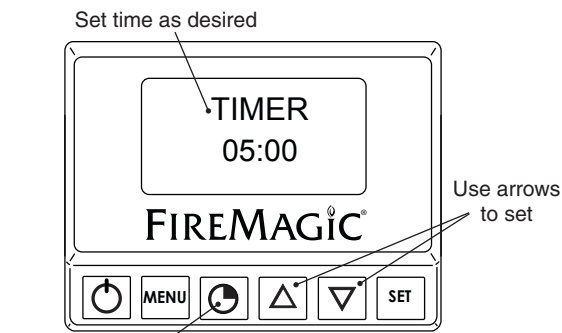

Fig. 29-4 Timer screen
1. Press the timer button. Use the arrows to set the desired amount of time (see Fig. 29-4).